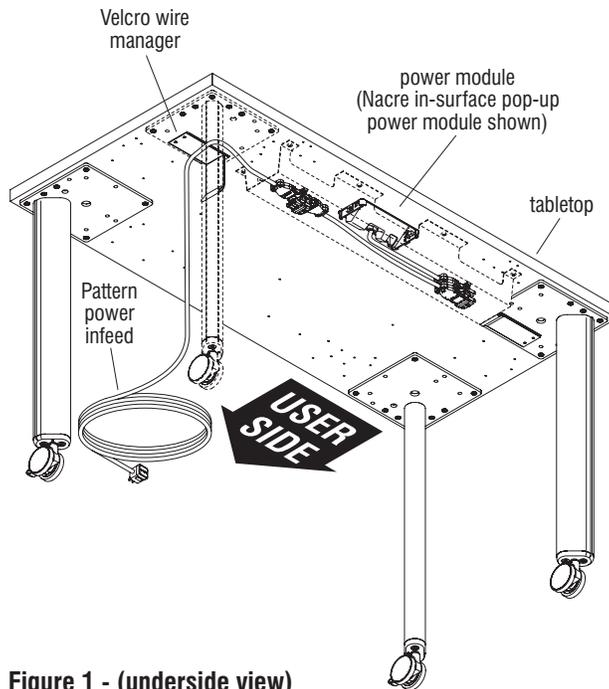

Figure 1 - (underside view)
1. Start Pattern electrical system assembly with the Pattern power infeed. Plug the power infeed's male connector end into the gray power distribution block closest to the post leg that the power infeed cord will be routed down into the vertical wire manager (Figure 1 & Detail K).
1. Route the desired Pattern power infeed or power module cord to the desired Velcro manager and strap the cord in (Figure 1).